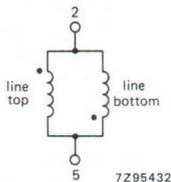

Fig. 2a Line coils.
**Line deflection coils**, parallel connected (Fig. 2a), terminals 2 and 5